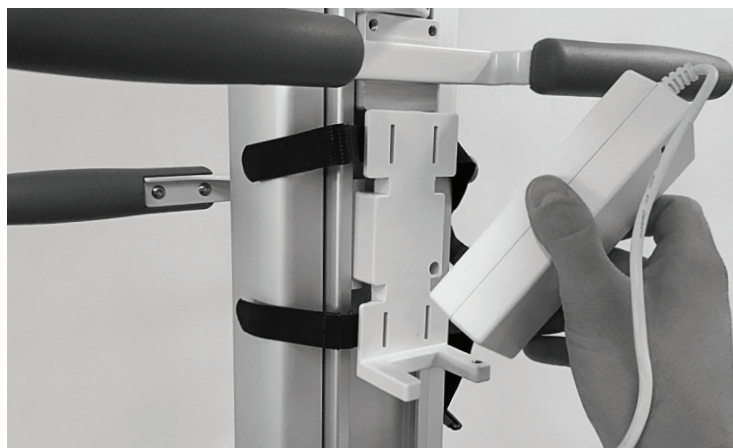

Figure 19: Power Adapter Mount
1. Position the Power Adapter on the Power Adapter Mount. See Figure 19.